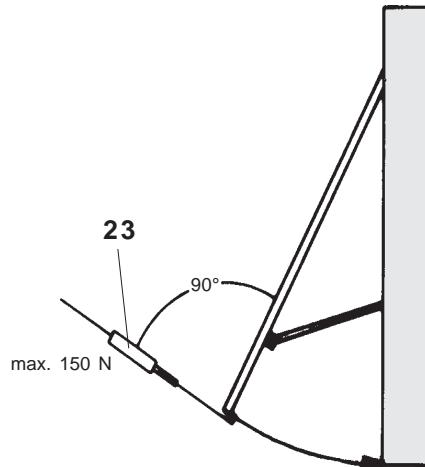

Fig. 10
- Close the door via an impulse transmitter and manually stop it during the closing procedure. With an applied force of max. 150 N, the drive unit shall reopen. Diagrammatic arrangement for measuring this force by means of a spring balance (23) according to Fig. 10